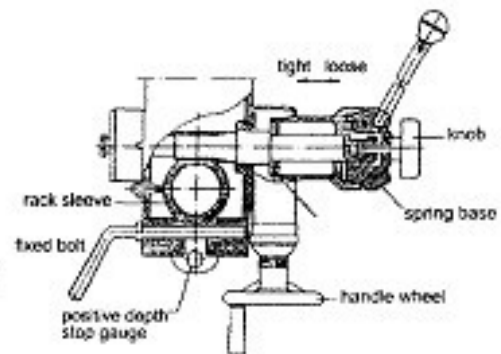

Fig.2
(1) Preparing for Drilling (see fig.2)(Except addition power feed system).
(2) Preparing for milling(see fig.2)(Except addition power feed system)